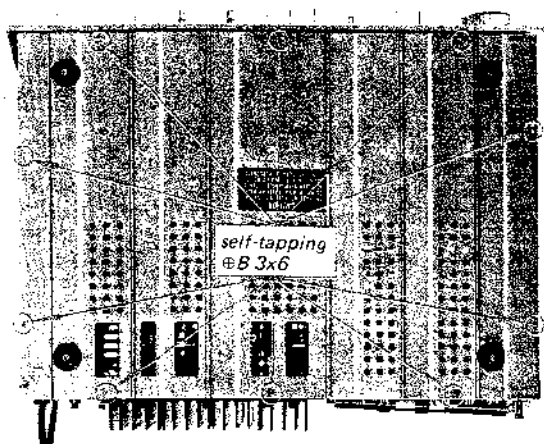

Fig. 2-2. Bottom plate removal
2. Remove the ten self-tapping screws (⊕ B 3x6) at the bottom of the receiver as shown in Fig. 2-2. This frees the bottom plate.